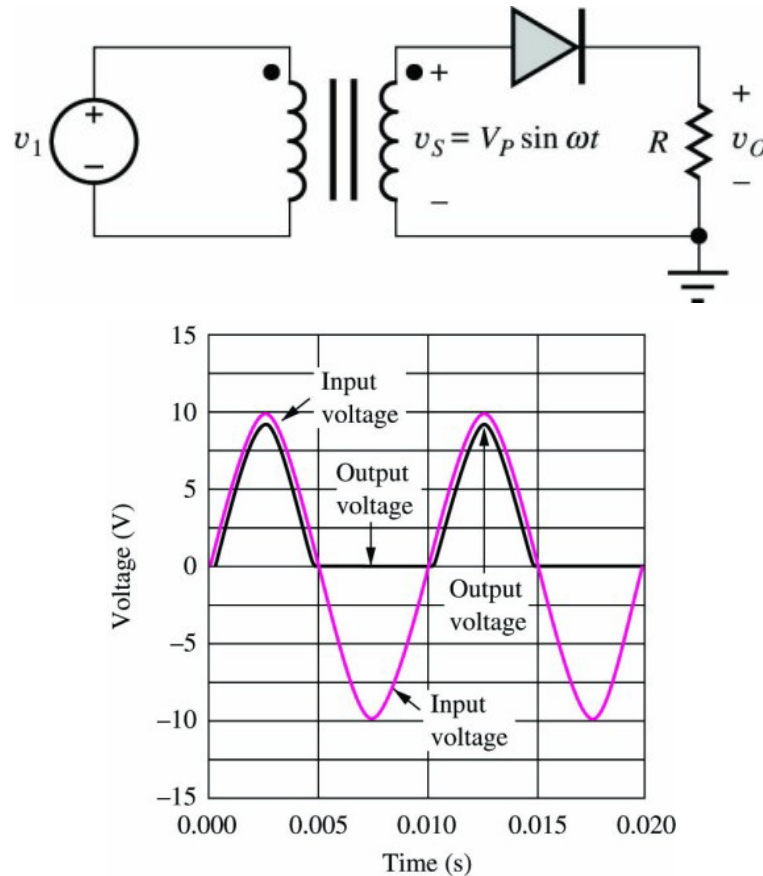

Figure 6-3-2: A half-wave rectifier and its output waveforms when the input is a 236/(10-0-10) center-tapped transformer
4. In this experiment, the input of the half-wave rectifier is a 236/(10-0-10) center-tapped transformer as shown in Figure 6-3-2.